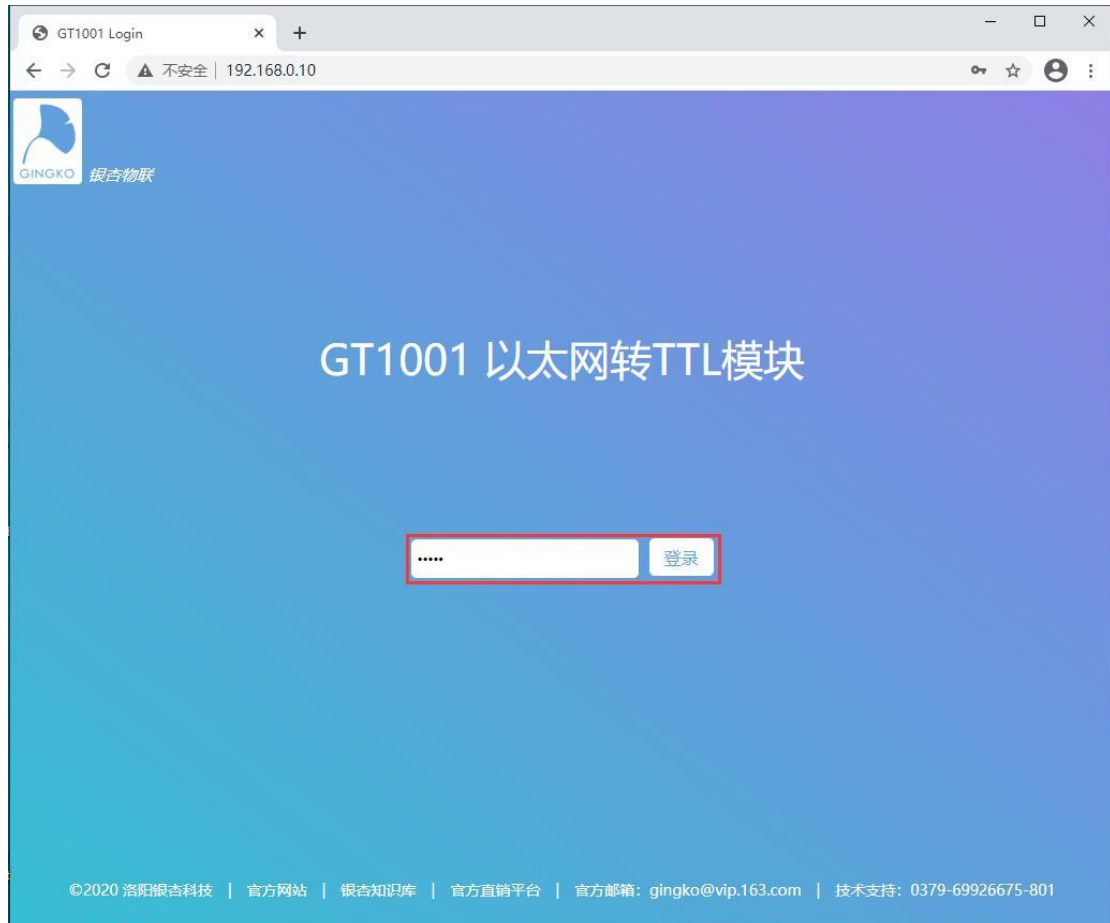

Figure 7-1 Login interface
(1) In the user program mode, set the computer IP to 192.168.0.1, open the web page, and enter the web address "192.168.0.10". As shown in Figure 7-1, enter the password "admin" and click "Login".